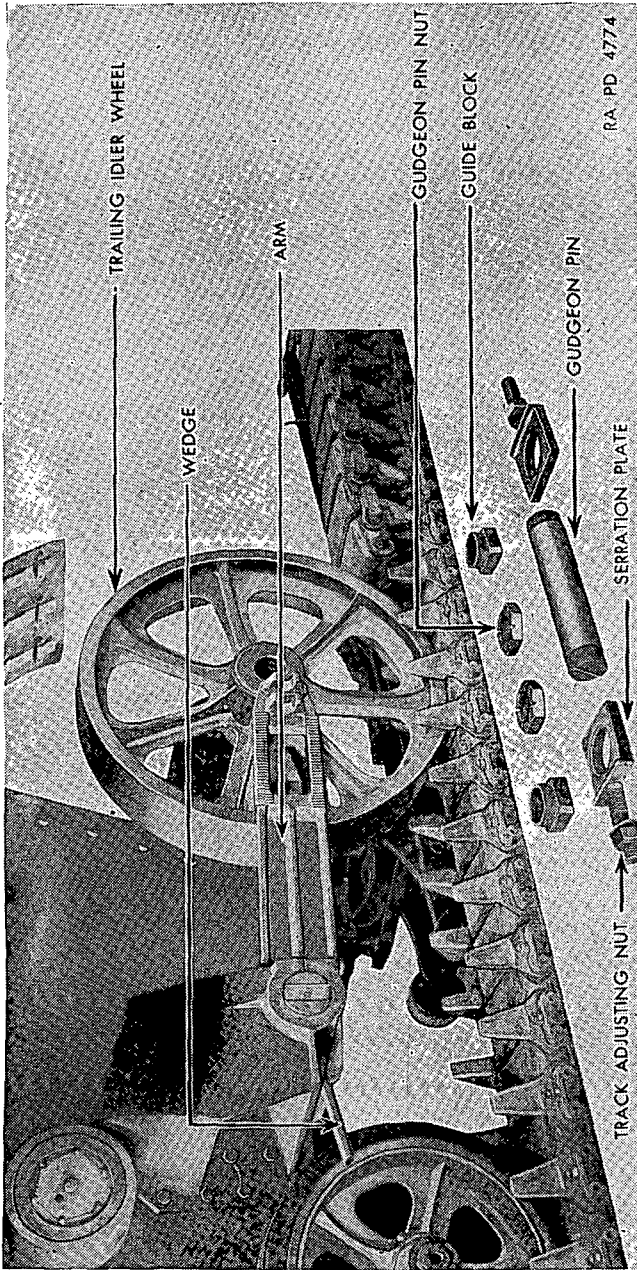

FIGURE 79.—Trailing idler wheel disassembly.
(1) *Removal of trailing idler wheel (fig. 79).*—(a) Disconnect track (see par. 113*d*).